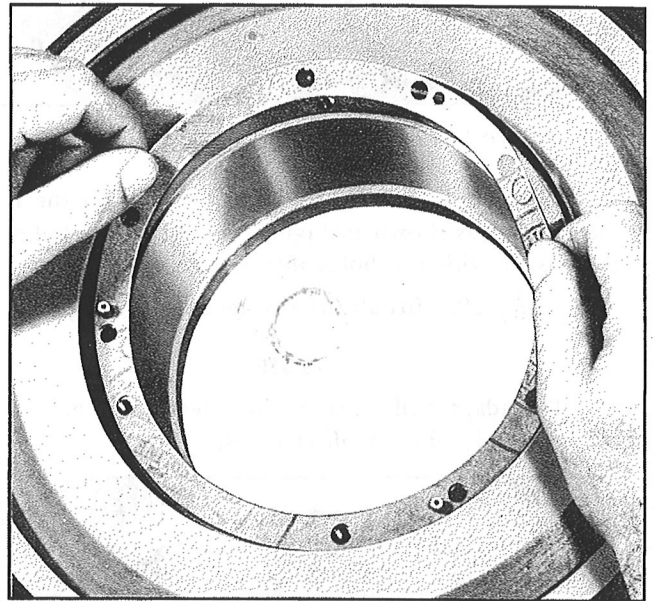

Figure 165—Installation of the Adapter Gasket
Step 28.—Install the adapter gasket on the regulator gear, as shown in Figure 165. Align the holes in the gasket with the holes in the gear face.